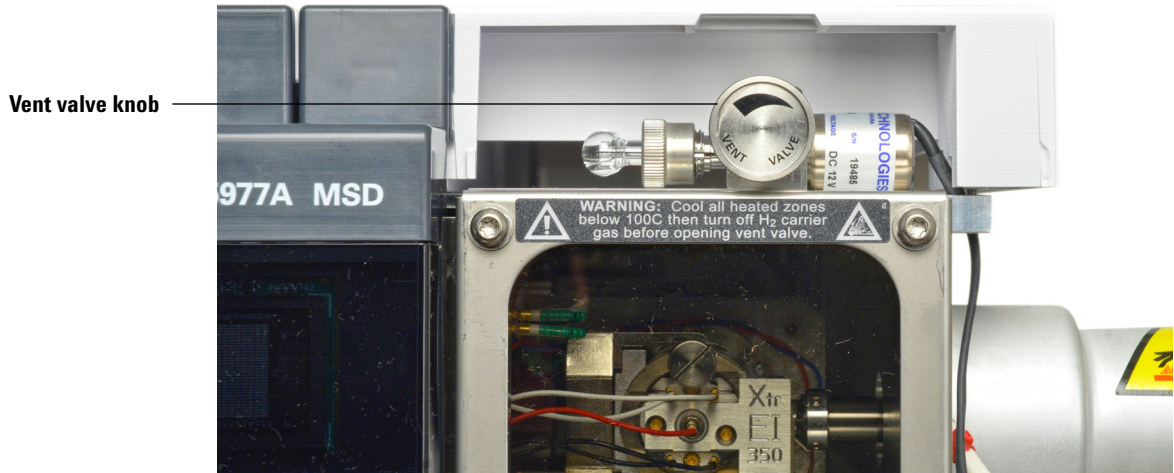

Figure 19 Vent valve O-ring
- 2 Completely remove the vent valve knob (See Figure 19 on page 131).